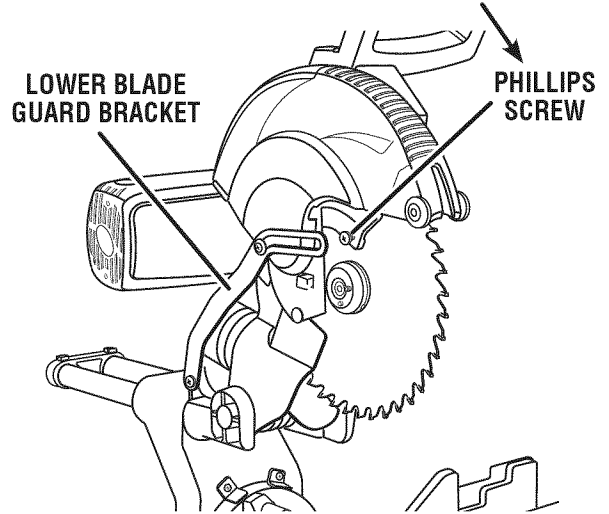

Fig. 17
See Figures 17 - 19.
- Fit the saw blade inside the upper blade guard and onto the spindle. The blade teeth point downward at the front of saw as shown in figure 17.